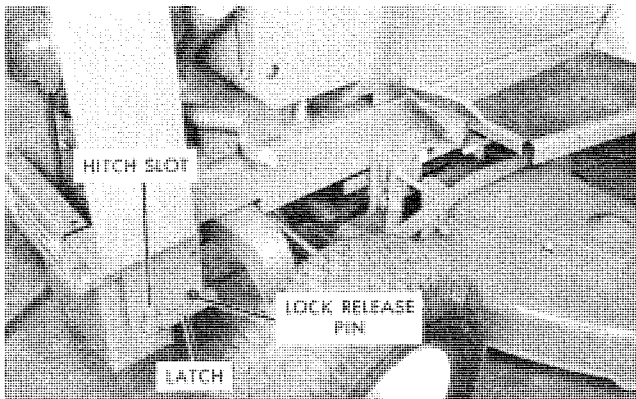

Fig. 5
4. Push front hitch latch release pin and open front latch. See Fig. 5.
3. Push front hitch latch release pin and open front latch. See Fig. 5.